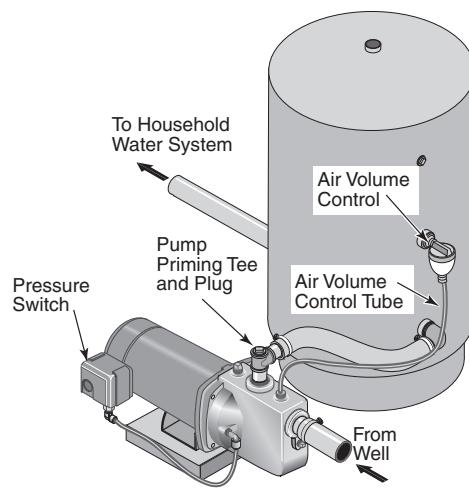

Figure 5: Standard Tank Connections
## STANDARD TANK CONNECTION (FIGURE 5)
- Step 1. Install one tee in the pump discharge port (see Figure 5).
- Step 3. Remove the 1/8" NPT pipe plug from the pump Air Volume Control (AVC) port (see Figure 5). Run tubing from the pump's AVC port (see Figure 5) to the port on the AVC mounted on the tank. See instructions provided with tank and AVC for details. AVC port location will vary, depending on your pump model (see exploded views, Page 9).